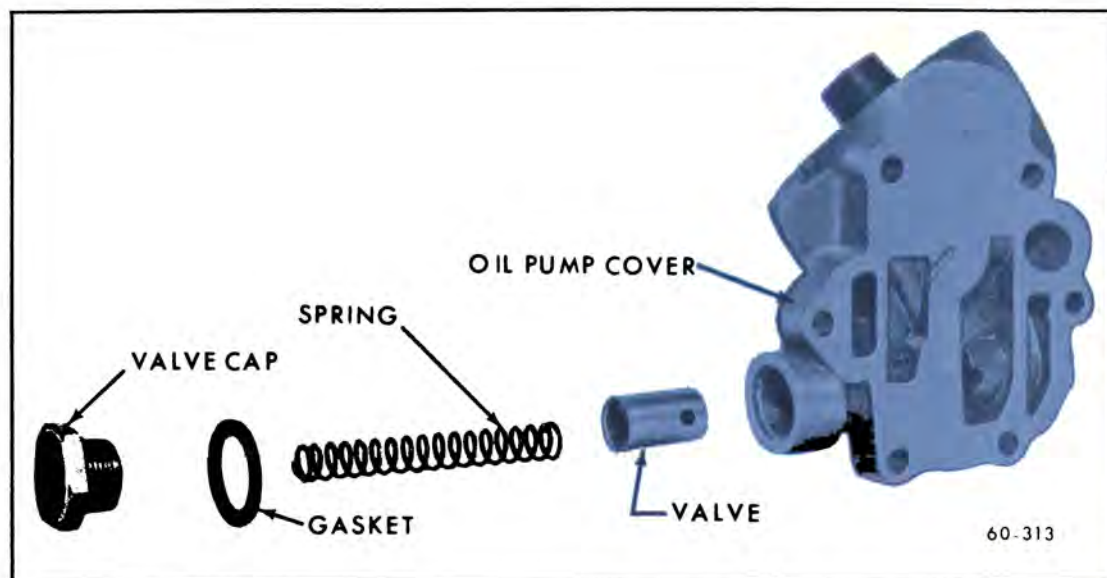

Figure 60-341—Oil Pump Cover and By-Pass Valve
4. Remove the oil pressure relief valve cap, spring and valve. See figure 60-341. Oil filter by-pass valve and spring are staked in place and should not be removed.